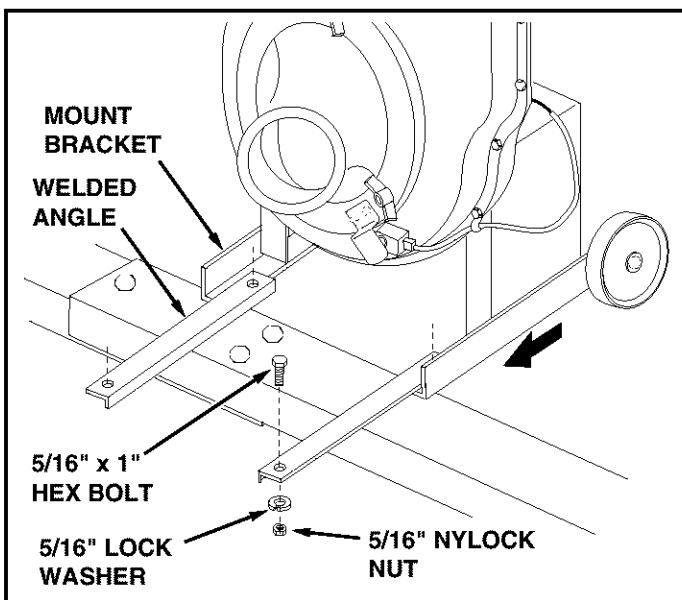

FIGURE 15
- Align the engine base with the tongue's welded angles. Tilt the engine base back on its wheels so that the ends of the mount brackets rest on the tongue, **underneath** the welded angles. Lift up on the engine base and slide the engine mount brackets **underneath** the welded angles. Fasten the mount brackets to the welded angles using four 5/16" x 1" hex bolts, 5/16" lock washers and 5/16" nylock nuts. **Tighten** the bolts securely. See figure 15.